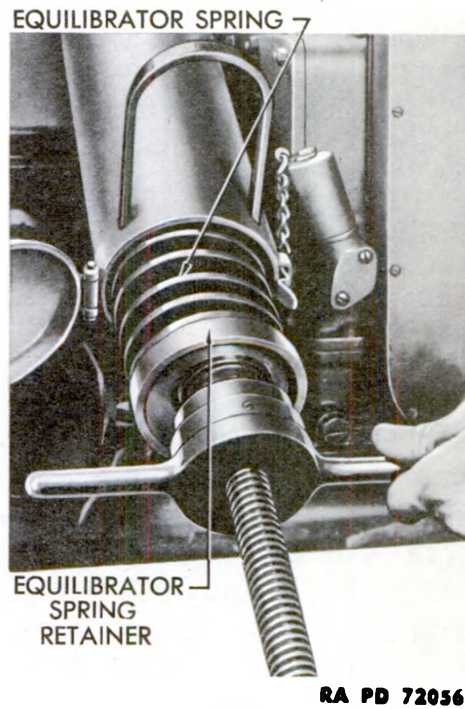

Figure 154 — Equilibrator Spring Rod — Removal
(4) Unscrew the spring compressor, relieving the compression on the equilibrator springs (fig. 154). When the compression has been entirely relieved, disassemble the spring compressor from the equilibrator rod. Remove the retainer, springs, and separators from the equilibrator case.